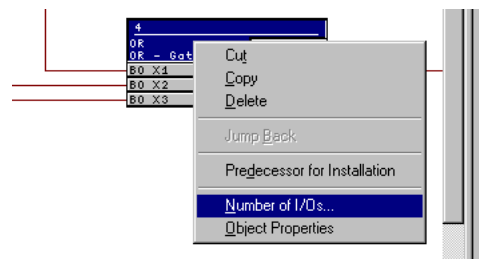

Figure 5-32 Example of an OR gate: module menu
The default run-time sequence is determined by the sequence of the insertion of the logic modules. You may redefine the run-time sequence by pressing <CTRL> – <F11> on the PC keyboard. Please refer to the CFC manual. The necessary function modules (FM) are contained in a library located to the right of the configuration chart. The module also indicates to which of the four run-time levels (MW\_BEARB, PLC1\_BEARB, PLC\_BEARB, SFS\_BEARB) it is assigned. The modules possess at least one input and one output. In addition to these inputs and outputs, which are displayed on the configuration sheet, a module may have additional inputs. The additional inputs can be made visible by selecting the module title block, pressing the *right* mouse button, selecting the menu option **Number Of I/Os...** (see Figure 5-32), and then increasing the number.